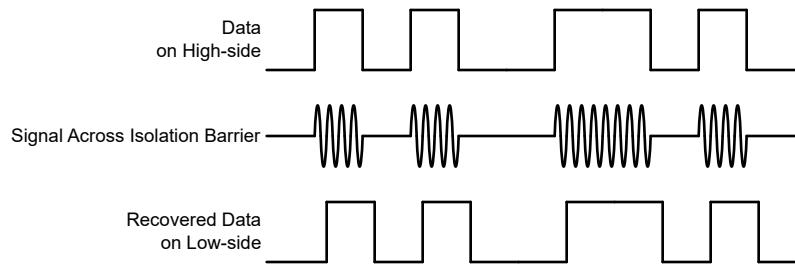

Figure 6-4. OOK-Based Modulation Scheme
The AMC21C12 uses an on-off keying (OOK) modulation scheme, as shown in Figure 6-4, to transmit the comparator output states across the SiO_2 -based isolation barrier. The transmit driver (TX) shown in the Functional Block Diagram transmits an internally-generated, high-frequency carrier across the isolation barrier to represent a digital one and does not send a signal to represent a digital zero.